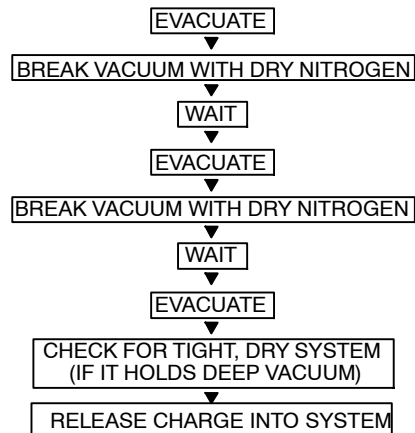

Fig. 19 – Triple Evacuation Method
Refer to Fig. 19 and proceed as follows:
- 6 Repeat this procedure as indicated in Fig. 19. The system will then be free of any contaminants and water vapor.